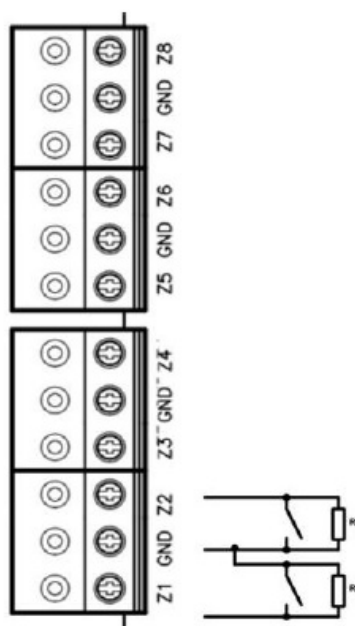

Fig. 12. Connection of RTE button
- The example of normally open contact RTE buttons connection to Z1 and Z2 terminals is on the Fig. 12.